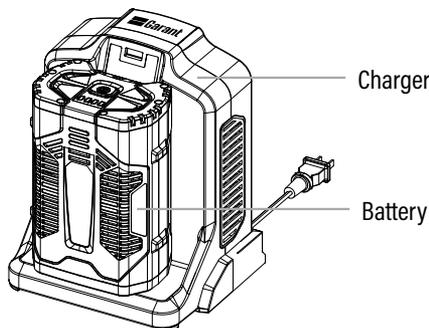

Fig. 2
3. Align the raised ribs on the charger pack with the mounting slots on the battery. Connect the two and click the battery into place (Fig. 2).